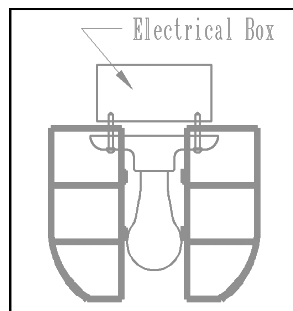

Figure 2
4. Slide each LightCage half between the light fixture and the electrical box (see figure 2).